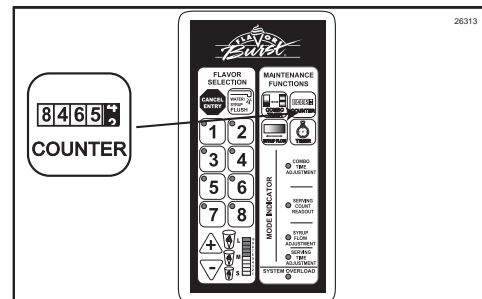

Figure 176
6. Press and hold the COUNTER key until there is an audible beep. After approximately 10 seconds, the registers will be cleared and the counter will be reset. (See Figure 176.)